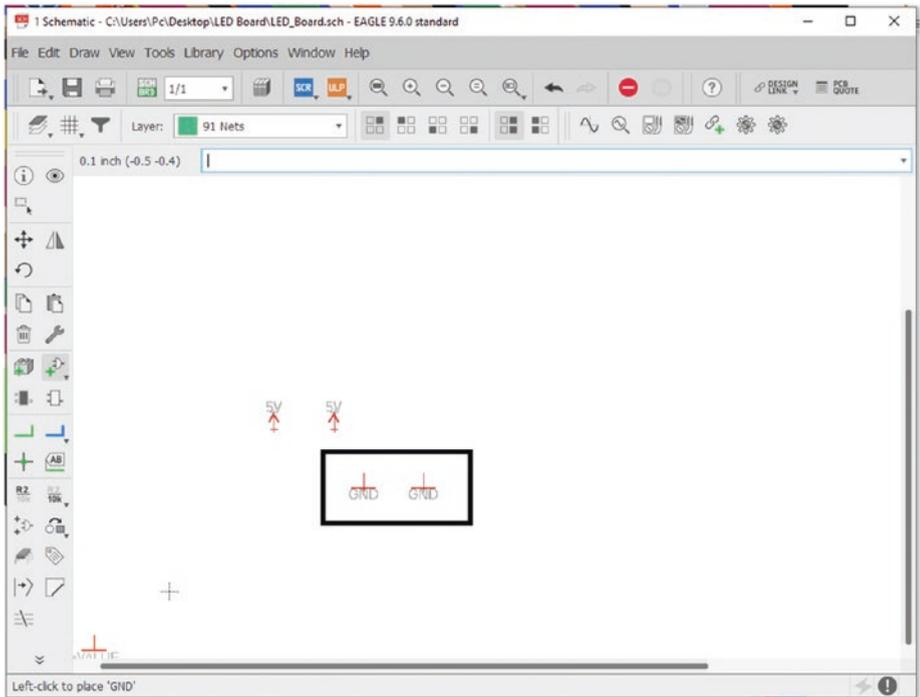

Figure 5-22. Add GND symbols to the schematic window
9. Add two “GND” symbols to the schematic window, just as you did with the “5V” symbol. See Figure 5-22.